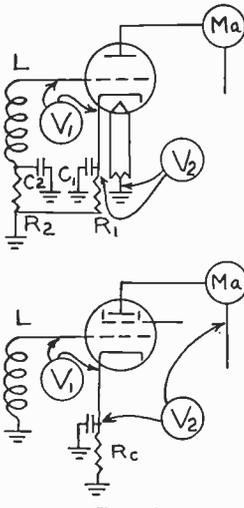

Figure 1
- 1—An “analyzer” is excusable only if it *saves time*—and that is the reason for the use of the tube-base plug and its connecting cord; one can get into the *tube* circuits without taking time to cut or solder. This is the *primary* business of an analyzer. See figure 1).